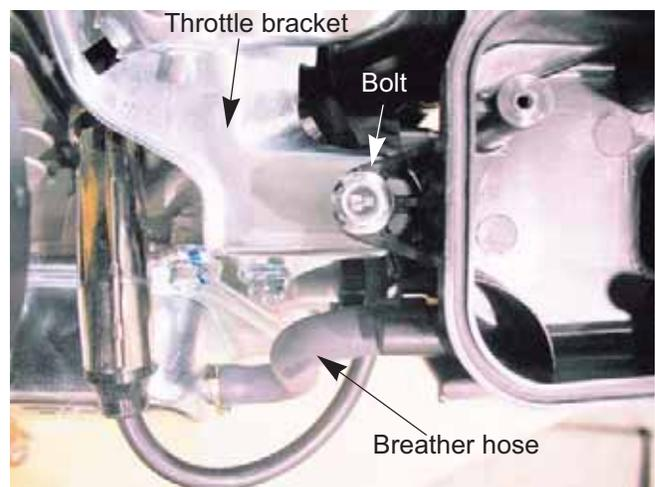

Figure 3.9
7. Remove the bolt that holds the rear of the control panel to the throttle bracket. See Figure 3.9.